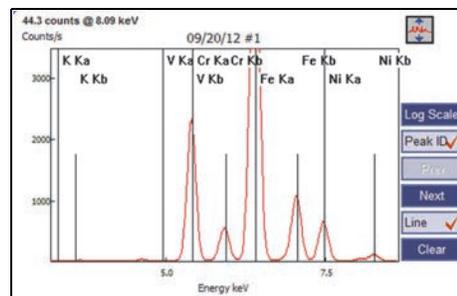

Figure 7-8 An expanded Peak ID display
- To zoom in on the display, click and drag across the area you want to expand. The display is expanded to show the area you selected (see Figure 7-8 on page 100).